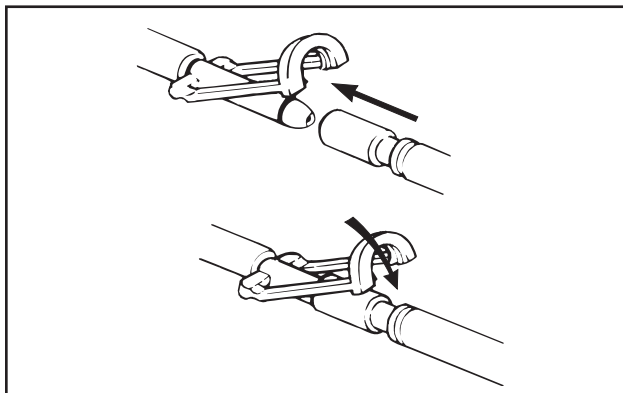

Figure 6—Clik-Tite Connector
2. Attach the two Clik-Tite connectors (fig. 6 below) on the connector hose to the blanket/body wrap. Insert the male fitting into the female. When fittings are fully seated, snap the locking ring into place to assure a positive lock.